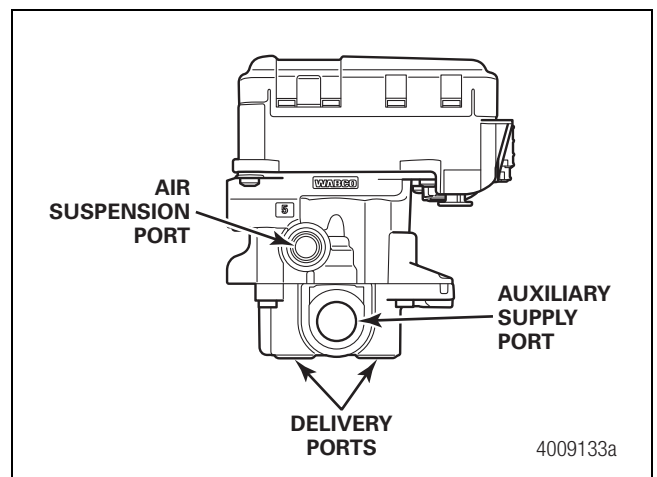
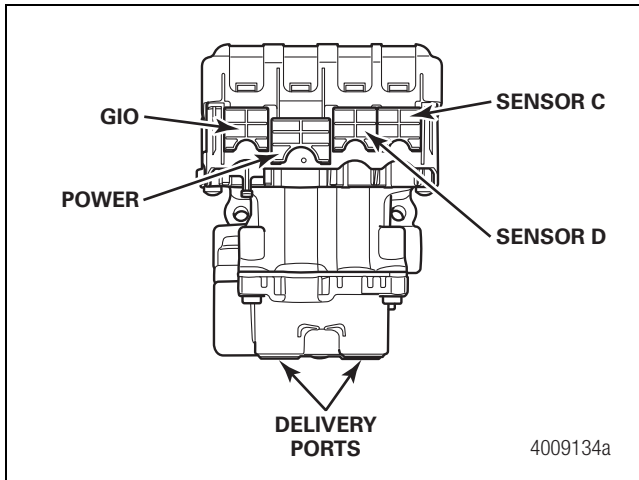
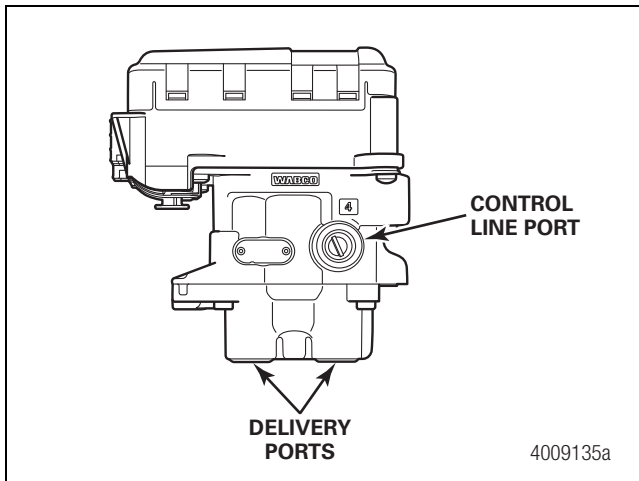

Figure 6.3
Figure 6.4
Figure 6.5
4. Disconnect the power cable, additional GIO cable (if used), and all sensor cables from the ECU/Valve Assembly. Figure 6.3, Figure 6.4 and Figure 6.5.
NOTE: When a GIO cable is not plugged into a connector, the black cap must remain in the connector to protect it from dirt and contamination. Figure 6.3, Figure 6.4 and Figure 6.5.
2. Connect air delivery lines to the ECU valve assembly. The ports on the bottom of the ECU assembly are 3/8-inch NPTF. Refer to Figure 6.3 for ECU valve port assignments, and Section 4 for air line configuration. Tighten the fittings to 59 ft-lb (80 N•m).